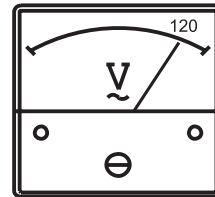

Figure 48. Voltmeter
6. The generator's **AC voltmeter** (Figure 48) will display the generator's output in **VOLTS**.